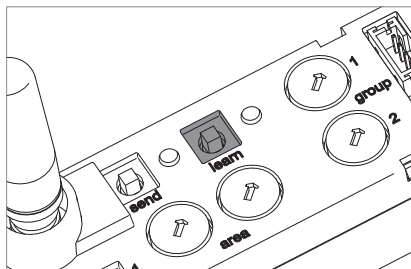

Fig. 15: "learn" key.
- Press the "learn" key and keep it depressed for 10 to 15 seconds until the "learn" LED starts flashing slowly, see Fig. 15.